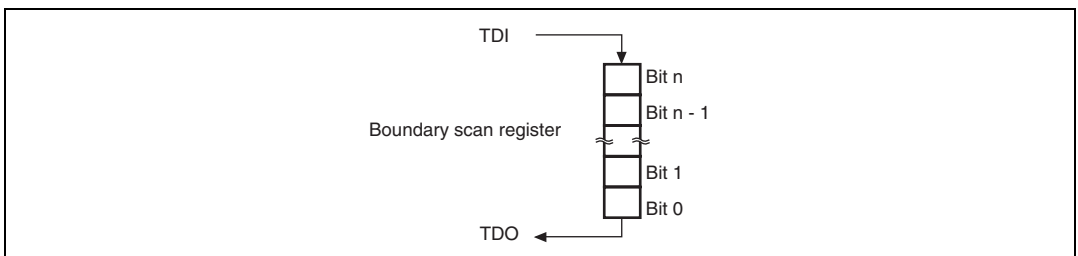

Figure 14.5 Serial Data Input/Output
- In serial communication, data is input or output from the LSB as shown in figure 14.5.